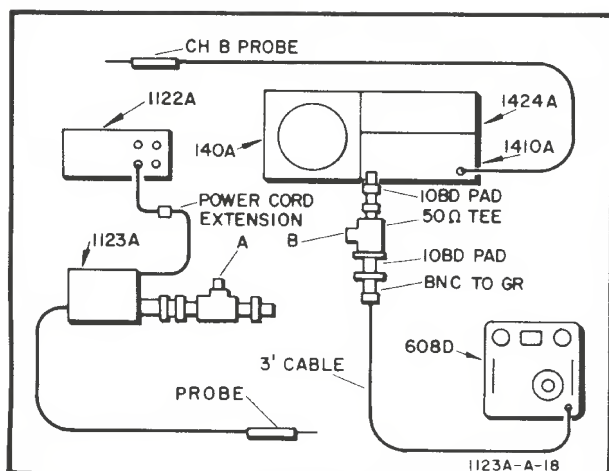

Figure 5-7. Bandwidth Test set-up
- Connect the equipment as shown in Figure 5-7.